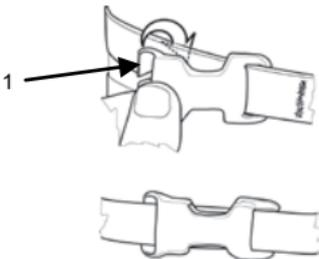

Figure 2. Quasm Buckle.
2. Attach quasm buckle (Figure 2, Item 1) (female portion, non-adjustable) to cummerbund of IOTV center row of horizontal webbing or to side plate carrier side panel.